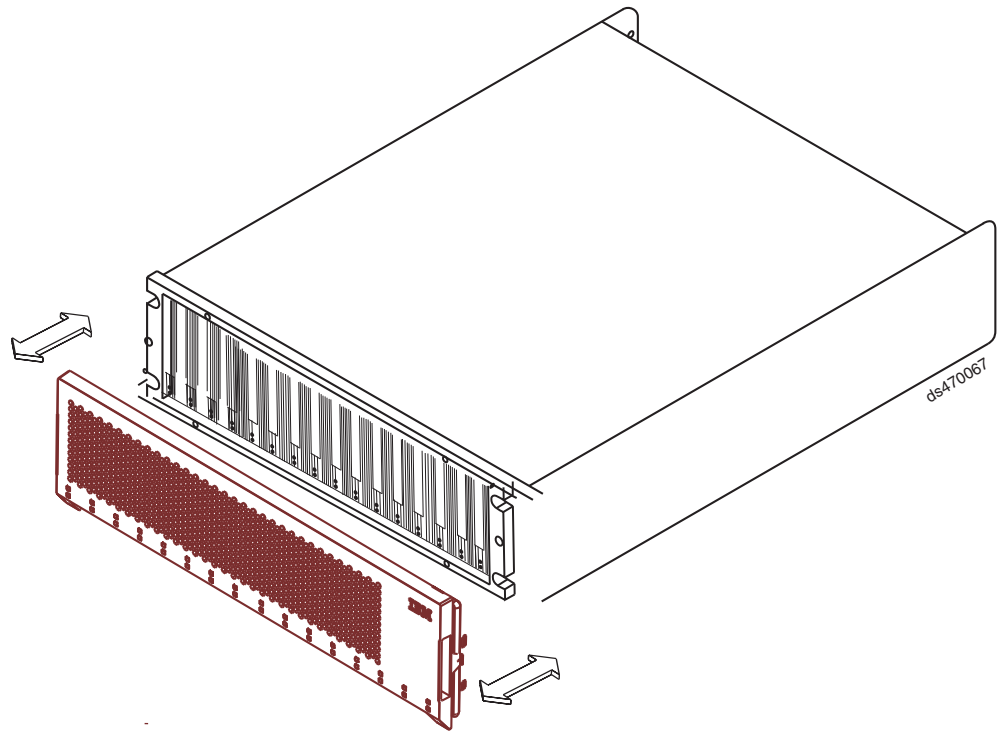

Figure 49. Removing and replacing a bezel
1. Grasp the sides of the bezel and pull it slowly toward you to remove it, as shown in Figure 49 on page 91.
2. To replace the bezel, grasp the sides of the bezel and snap it onto the EXP810 chassis, as shown in Figure 49 on page 91.
1. Remove the bezel by grasping the sides of the bezel and pulling it slowly toward you, as shown in Figure 49.
7. Grasp the sides of the bezel and snap it onto the EXP810 chassis, as shown in Figure 49.